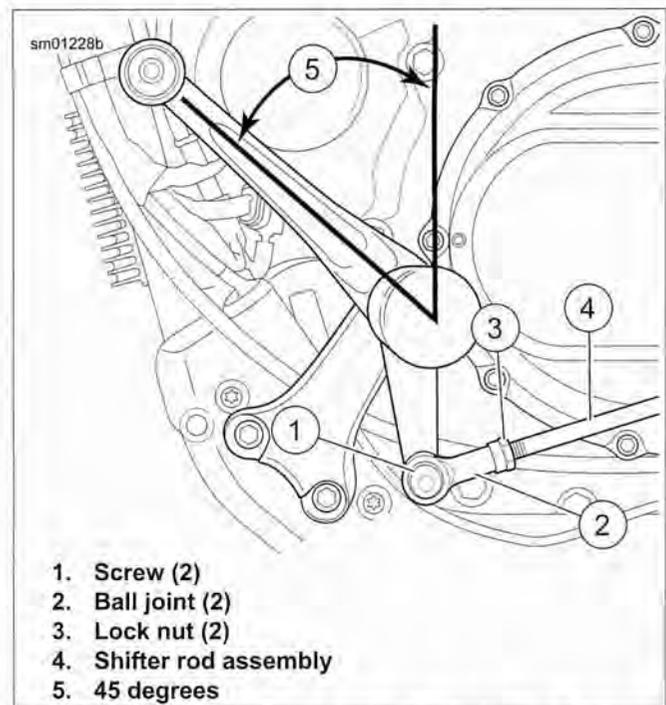

Figure 2-227. Adjusting Shift Pedal: Models with Forward Controls
See Figure 2-227. Adjust shifter rod assembly (4) length until shifter lever assembly is at 45 degrees (5):
- Loosen lock nuts (3) on both ends of shifter rod.
- Remove screw (1) securing ball joint (2) to shifter lever assembly.
- When angle of shift lever assembly is at 45 degrees, install screw (1). Tighten to 120-180 **in-lbs** (13.6-20.4 Nm).